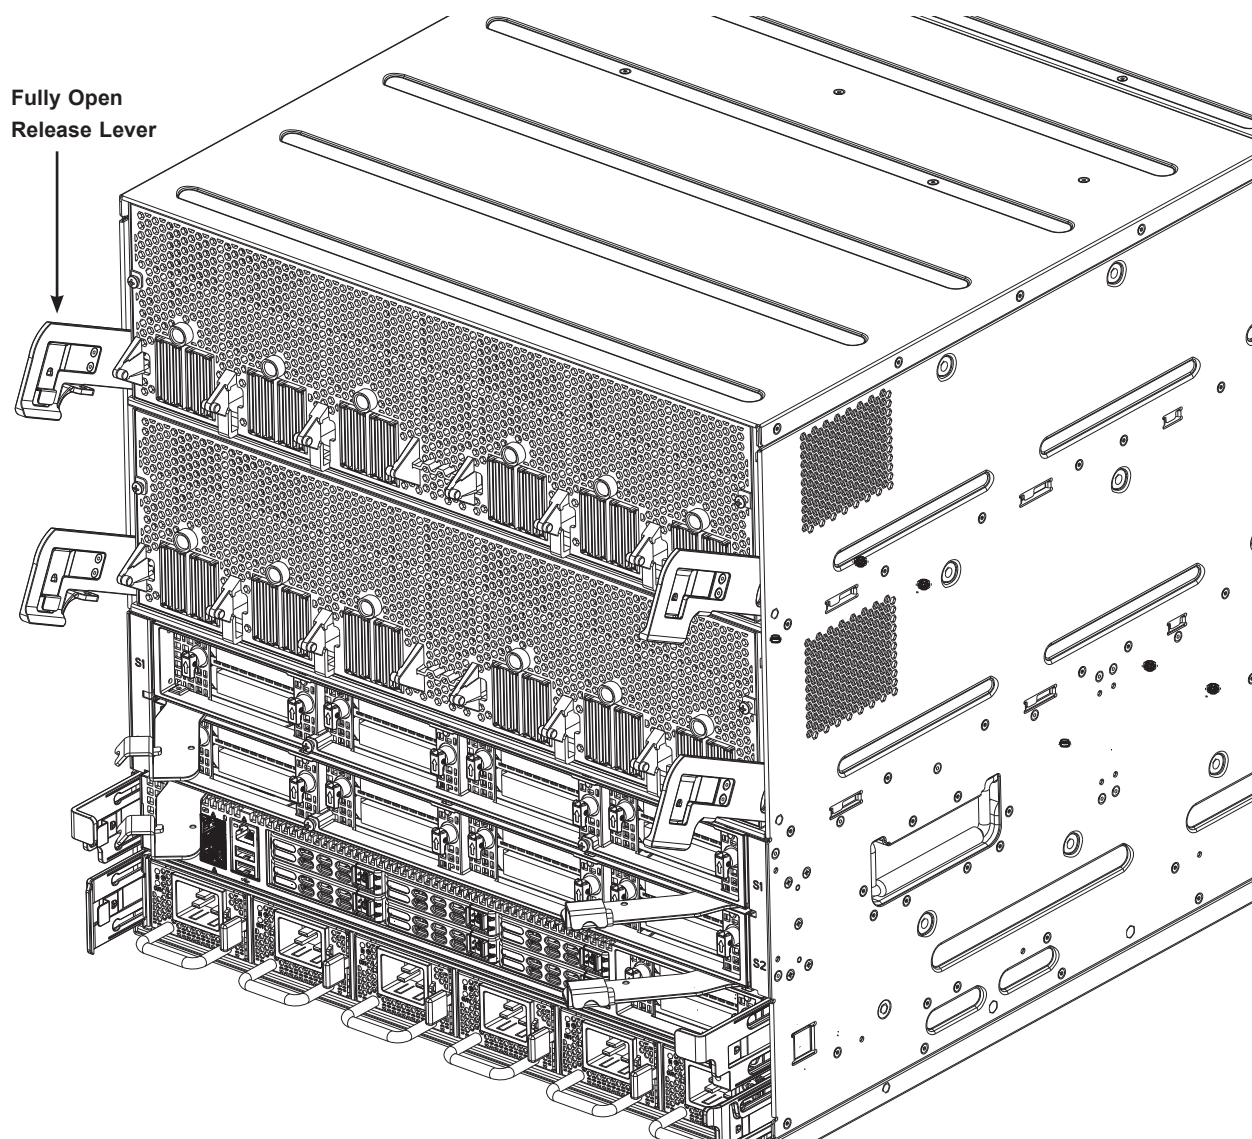

Figure 3-11. Installing the GPU Trays
1. Note that the release levers on each side must be in the fully open position. (Fig 3-11)